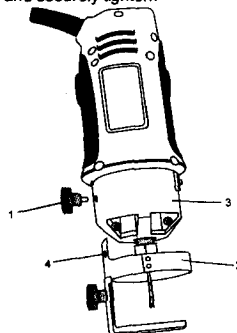

Fig. 4
1. Remove accessory locking knob (1) from the base of the cutter motor housing (see Fig. 4). Slide freehand sole plate mounting bracket (2) onto the bottom of motor housing (3) until the mounting hole (4) lines up with the hole in the motor housing.
2. Install freehand sole plate as shown in Fig. 4.